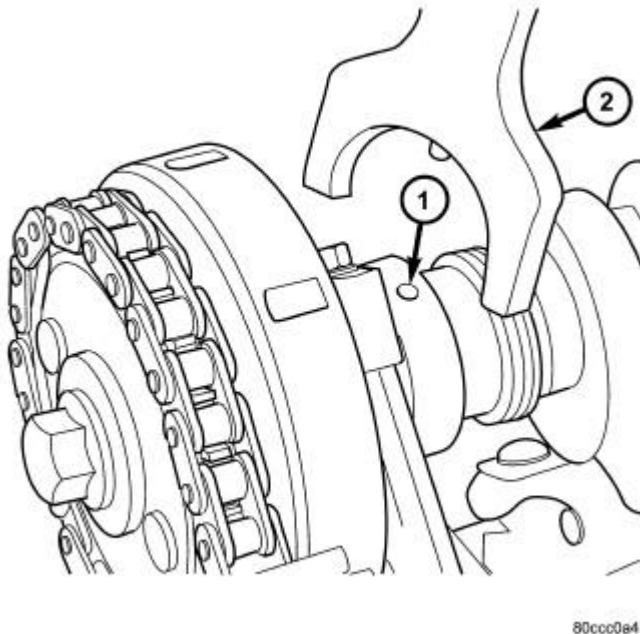

Fig. 35: Camshaft & Camshaft Holder
6. Hold the camshaft with the Camshaft Holder (special tool #8428A, Holder, Camshaft), while removing the camshaft sprocket bolt and sprocket. Refer to **Fig. 35**.